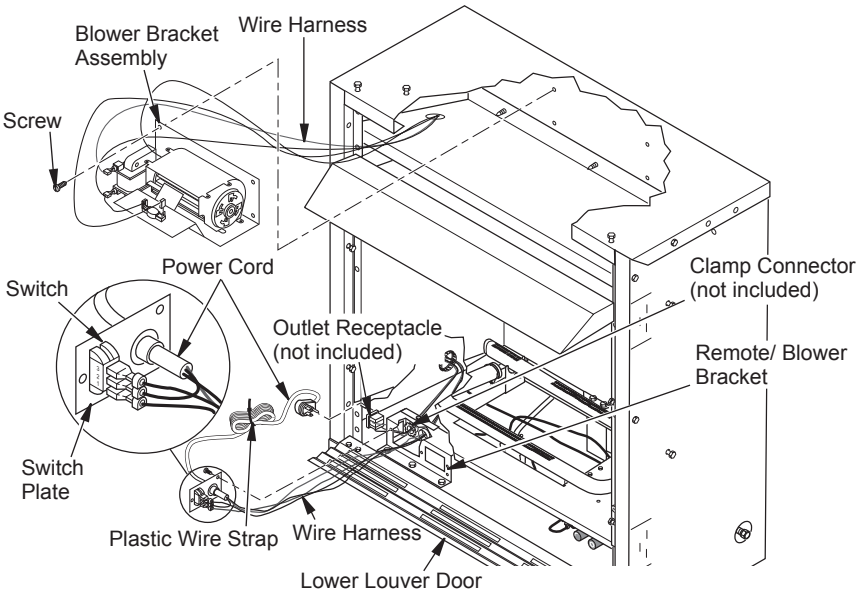

Figure 18 - Installing Blower Bracket Assembly
1. Install snap bushing from blower kit into one hole on rear of remote/blower bracket (see Figure 18). The other hole is for a strain relief clamp (not supplied) to secure incoming electrical supply.
4. Plug power cord to outlet receptacle (not provided) as shown in Figure 18. Wind extra cable of power cord and tie up with plastic wire strap (see Figure 18). Set cable bundle between the remote/blower bracket and outer casing, away from the burner.